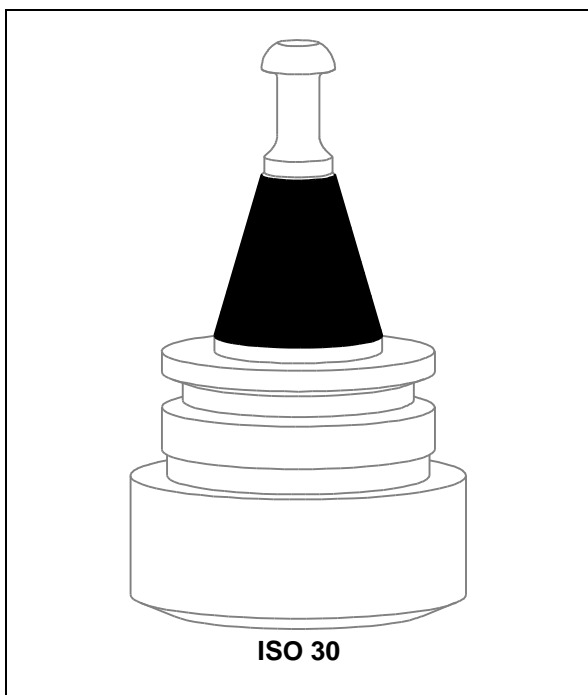
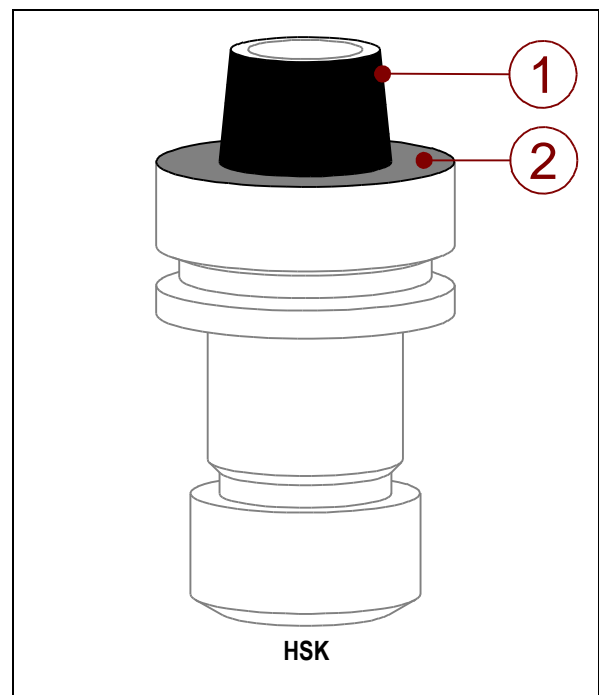
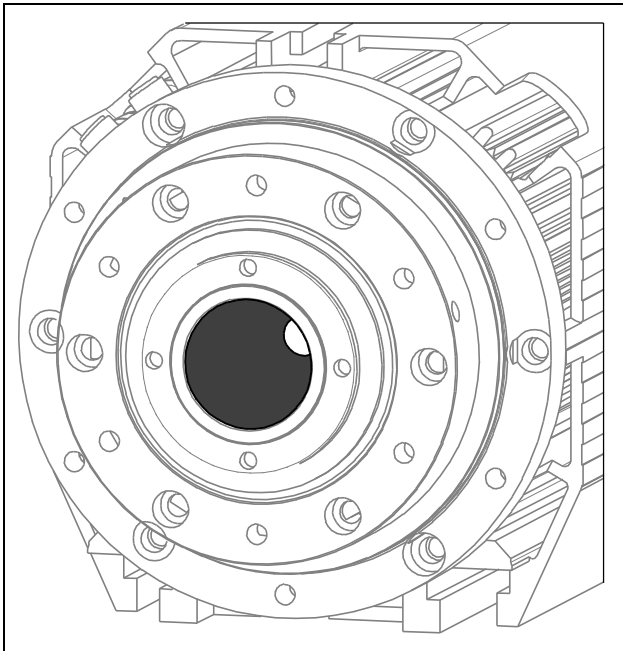
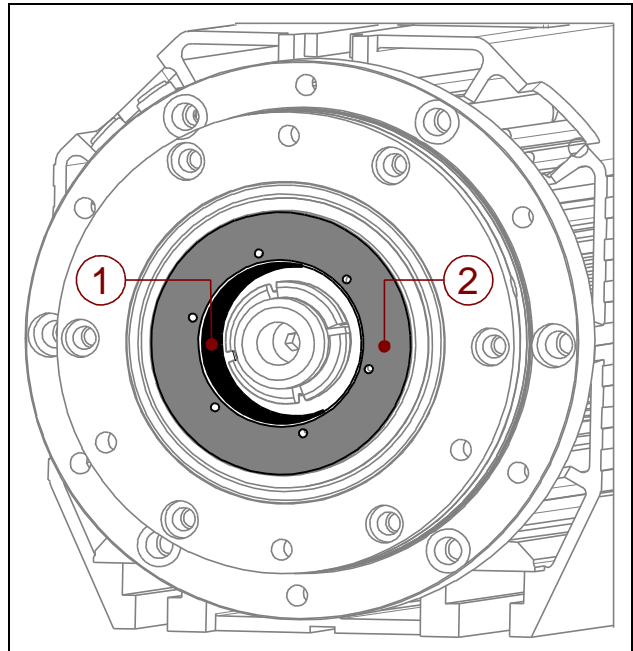

Figure 12.1 Conical surface of an ISO 30 tool holder (in black)
Figure 12.2 HSK tool holder:
Figure 12.3 Conical surface of ISO 30 spindle shaft (in black)
Figure 12.4 HSK tool holder housing
Always keep the conical surface of the tool holder (shown in black in Figure 12.1 and Figure 12.2) and that of the housing in the spindle shaft (shown in black in Figure 12.3 and Figure 12.4) perfectly clean and free from dust, grease, coolant, oil, metal shavings, and corrosion or lime scale. Check these before you start to use the electro-spindle.
**HSK VERSION ONLY:** Make sure that the faces of the tool holder and spindle shaft (shown in grey and identified by No. 2 in Figure 12.2 and Figure 12.4) are clean too.
**USE A CLEAN AND SOFT CLOTH TO CLEAN THE CONICAL SURFACES AND THE FACES SHOWN IN FIGURES FROM Figure 12.1 TO Figure 12.4. ABSOLUTELY NEVER USE ABRASIVE TOOLS OR MATERIALS LIKE METAL BRUSHES, EMERY CLOTH, ACIDS AND OTHER AGGRESSIVE CHEMICALS.**
Clean carefully the conical surface of the tool holder (shown in black in Figure 12.1 and Figure 12.2) using a clean, soft cloth dipped in ethyl alcohol.